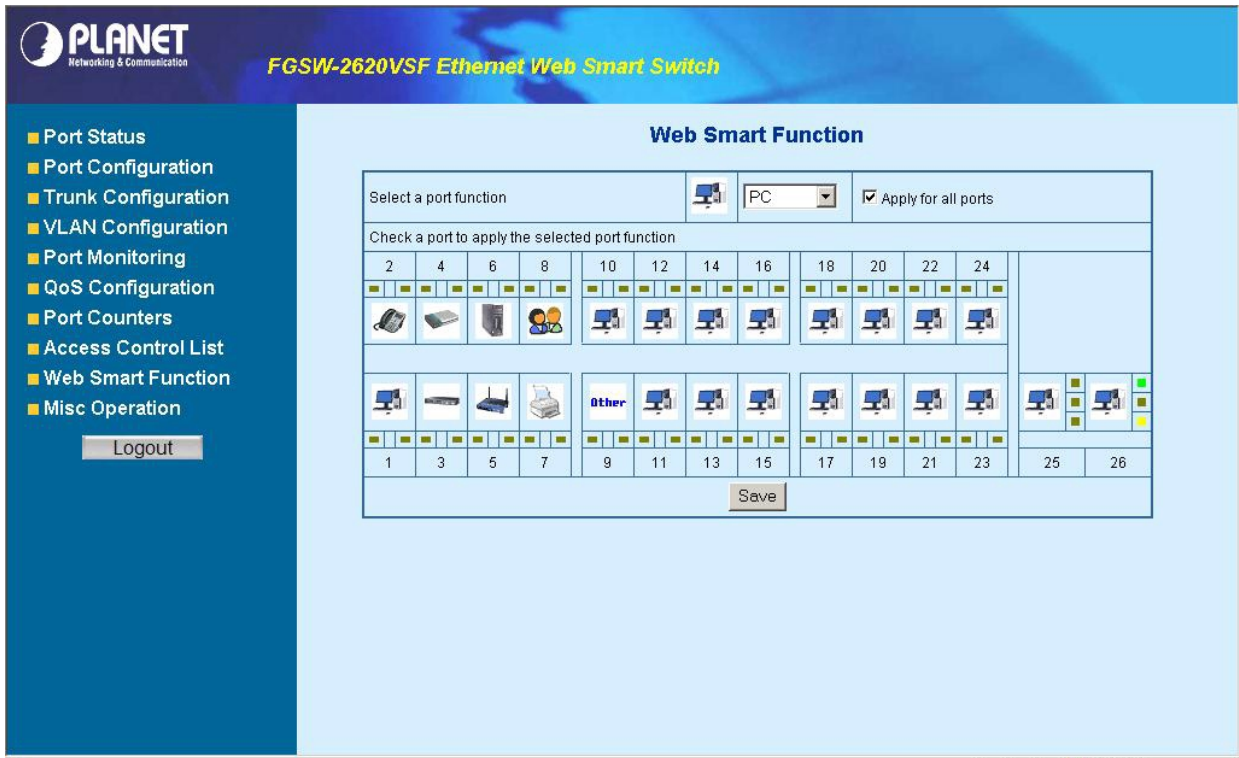

Figure 4-67 Web Smart Function Web Page screen
3. After setup completed, press “**Save**” to save current configuration, the screen in Figure 4-67 appears.
1. Choose a device and check “**Apply for all ports**” from options of Select a port function, the screen in Figure 4-67 appears.